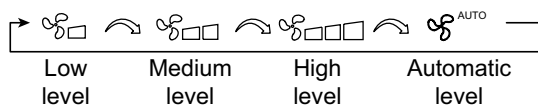

Fig. 26: Setting the fan speed
- Each push on the FAN key changes the fan level in the sequence as shown in Fig. 26.